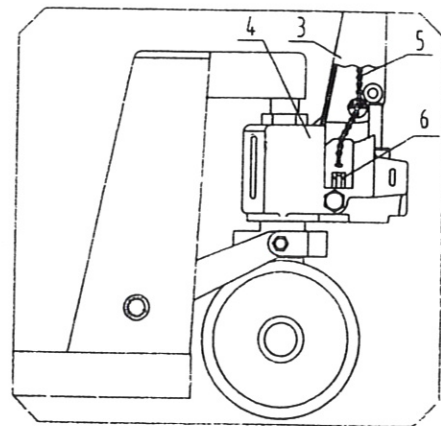

Fig2
- 3.3 Turn Axle Pin (2) to make vertical the axis of the big pore in Axle Pin. Cross Roller Chain (5) of Handle through the pore in Axle Pin (2). See Fig. 2.
- 3.4 Put Screw and Nut at the end of Roller Chain (5) into the slot of Lever Pad (6). See Fig. 2 and 5.